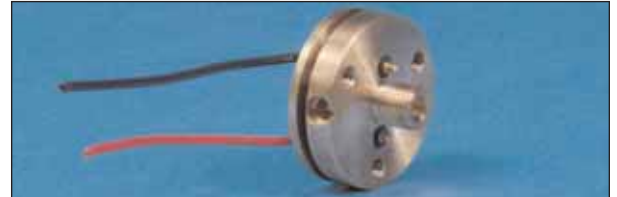

Figure 1: Sleeve-Thru Adapter with contact sensor.
1. A customer is using FC or SMA mating sleeve to butt-couple 2 high power multimode fibers terminated with appropriate connectors. A sensor that is installed at the appropriate point in the FC or SMA mating sleeve will be able detect the presence or absence of a connector metal ferrule. Thus, in case an operator unwittingly removes one of the high power fiber patchcords by unscrewing the FC or SMA connector, the sensor signal can be used by the customer to trigger a safety interlock or shut down of the laser. In addition, if a thermocouple or a thermistor has also been installed in the mating sleeve, and there has been some damage to one of the connectorized fiber endfaces that is causing light to reflect into the mating sleeve leading to local temperature rise, the signals from the thermistor or the thermocouple can be used to alert the operator and/or initiate a safety interlock at the laser or laser shut down. Figure 1 shows an SMA sleeve-thru adapter with contact style sensor for fiber connector proving. Figures 2 and 3 show SMA and FC mating sleeves in which both the inductive proximity and temperature sensors have been installed.
- FC and SMA Sleeve-through adapters (mating sleeves) for multimode fiber to fiber coupling situations- See Figures 1 and 2